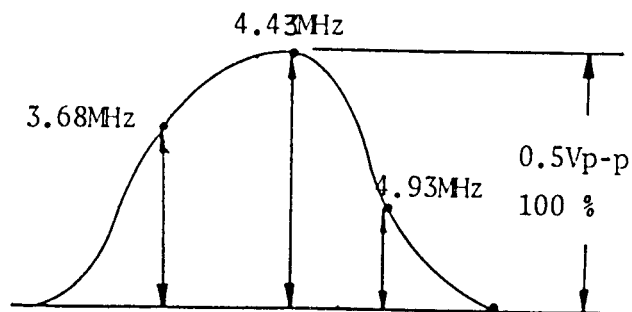

FIG.10
3. Adjust T301 to obtain the waveform as in Fig. 10.